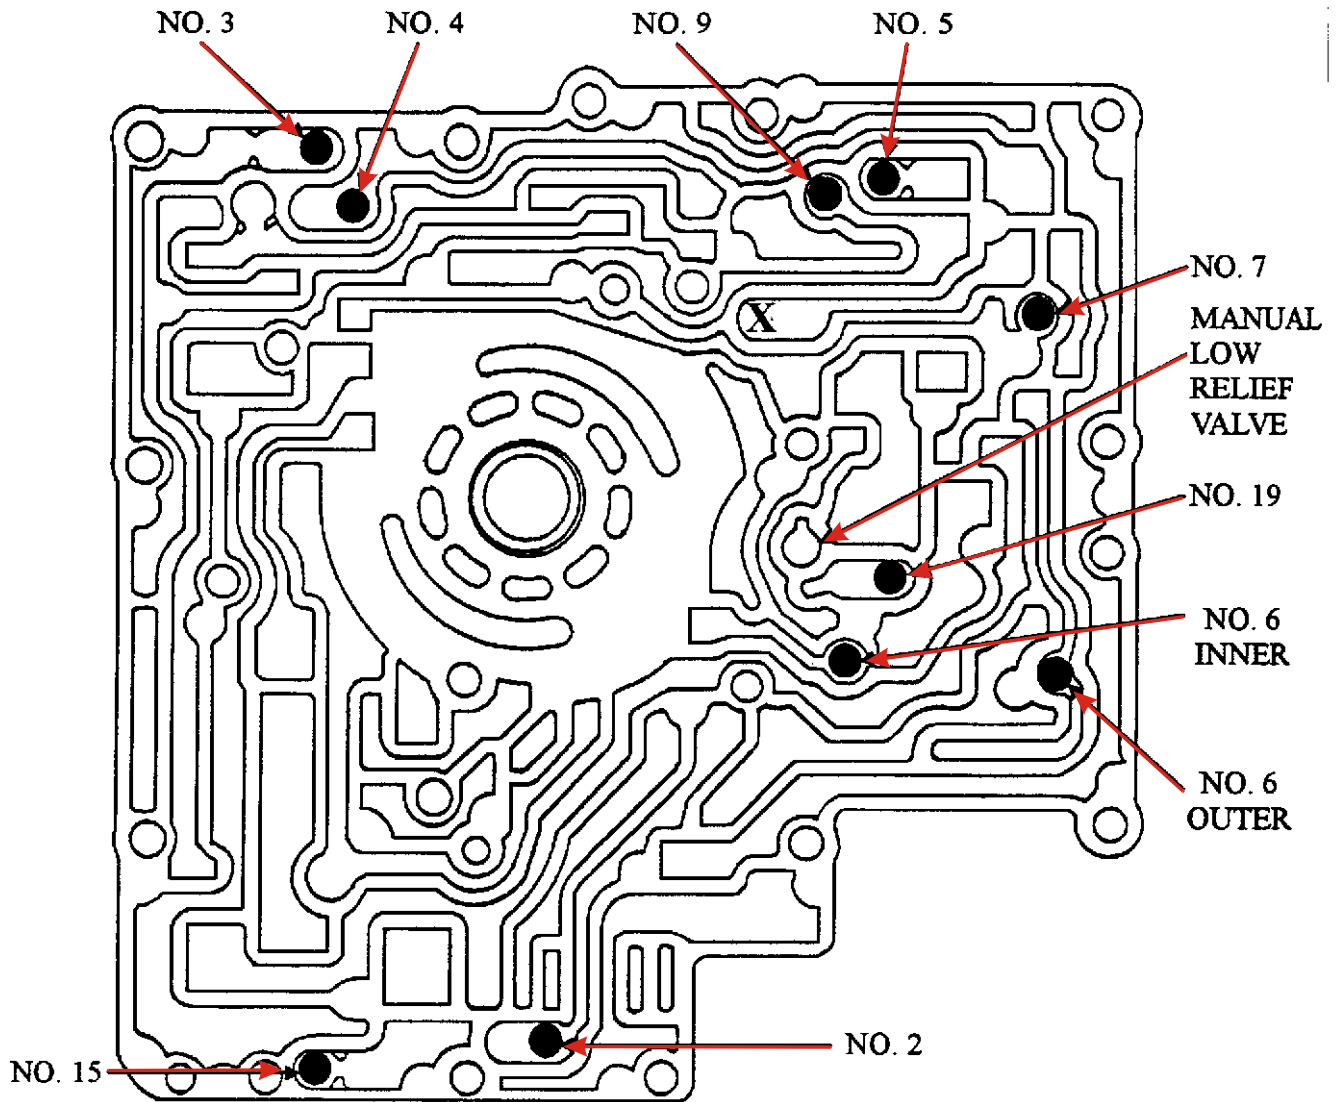

Figure 3
1986-1990 TAURUS/SABLE, 3.0L Engines, All Models 1989 CONTINENTAL, 3.8L Engines, Models PNA-AB, PNA-AB3 The oil pump body on these models have NINE (9) checkballs. REFER TO FIGURE 3 FOR LOCATIONS